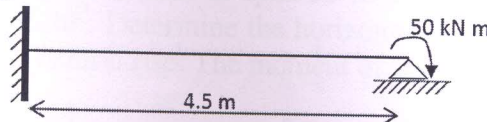

Fig. 1
b) Define the carry-over factor and obtain the carry-over factor for a beam of prismatic member shown in Fig. 1. [3]